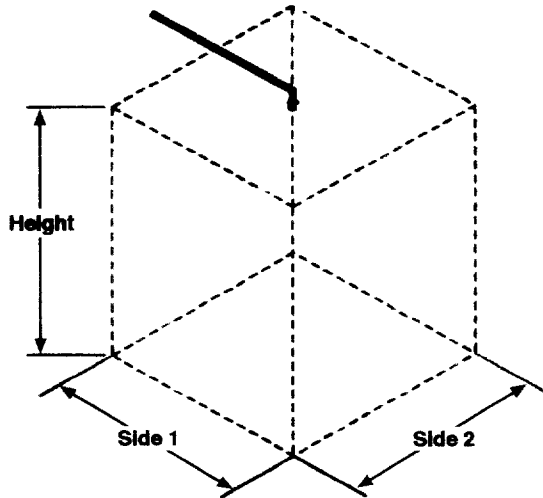

Figure 3-1. Nozzle Location
The nozzle is to be mounted in the center (See Note) of the protected area, with the discharge holes in the nozzle no greater than four (4) inches from the ceiling. For duct protection, the nozzle is to be mounted in the center. See Figure 3-1.